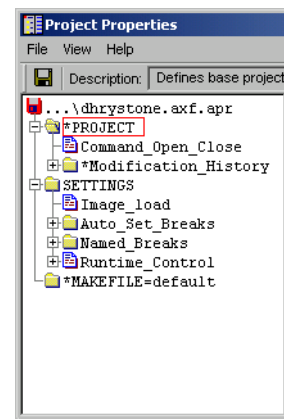

Figure 2-6 Changing auto-project settings
3. Expand the PROJECT group to see the project settings, shown in Figure 2-6.
Figure 2-6 shows the Image_load group and other image settings, such as breakpoints and runtime controls.